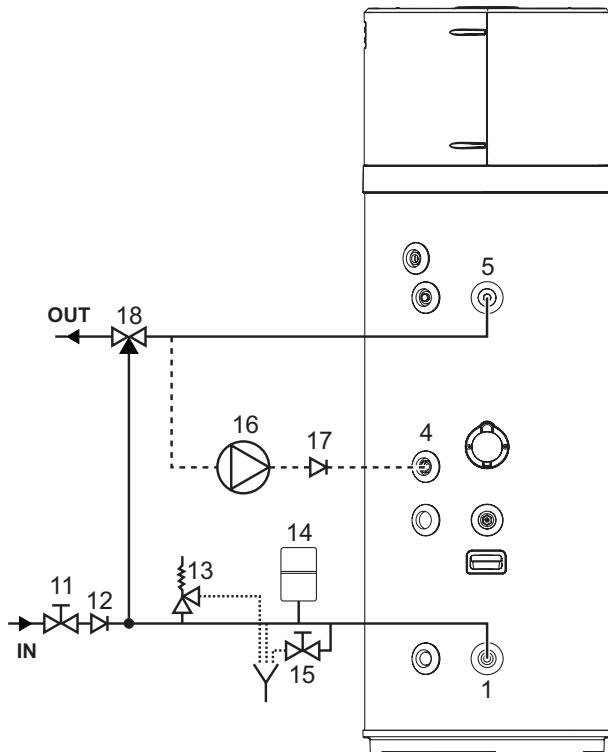

fig. 17- Example of water system
The following figure (fig. 17) illustrates an example of plumbing connection.
#### Legend (fig. 17)
**ATTENTION!**: The heat pump for DHW production can heat the water to over 60°C. Therefore, to protect from burns, an automatic thermostatic mixing device must be installed on the hot water piping (fig. 17).